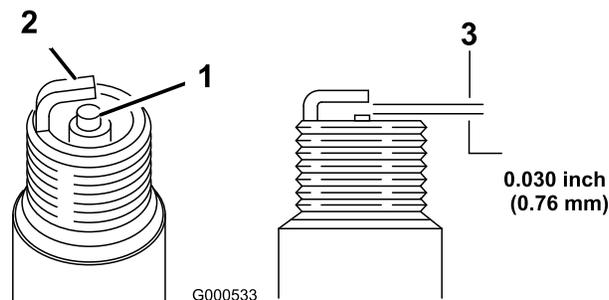

Figure 46
1. Look at the center of the spark plugs (Figure 46).
2. Check the gap between the center and side electrodes (Figure 46) and bend the side electrode, if the gap is not correct.